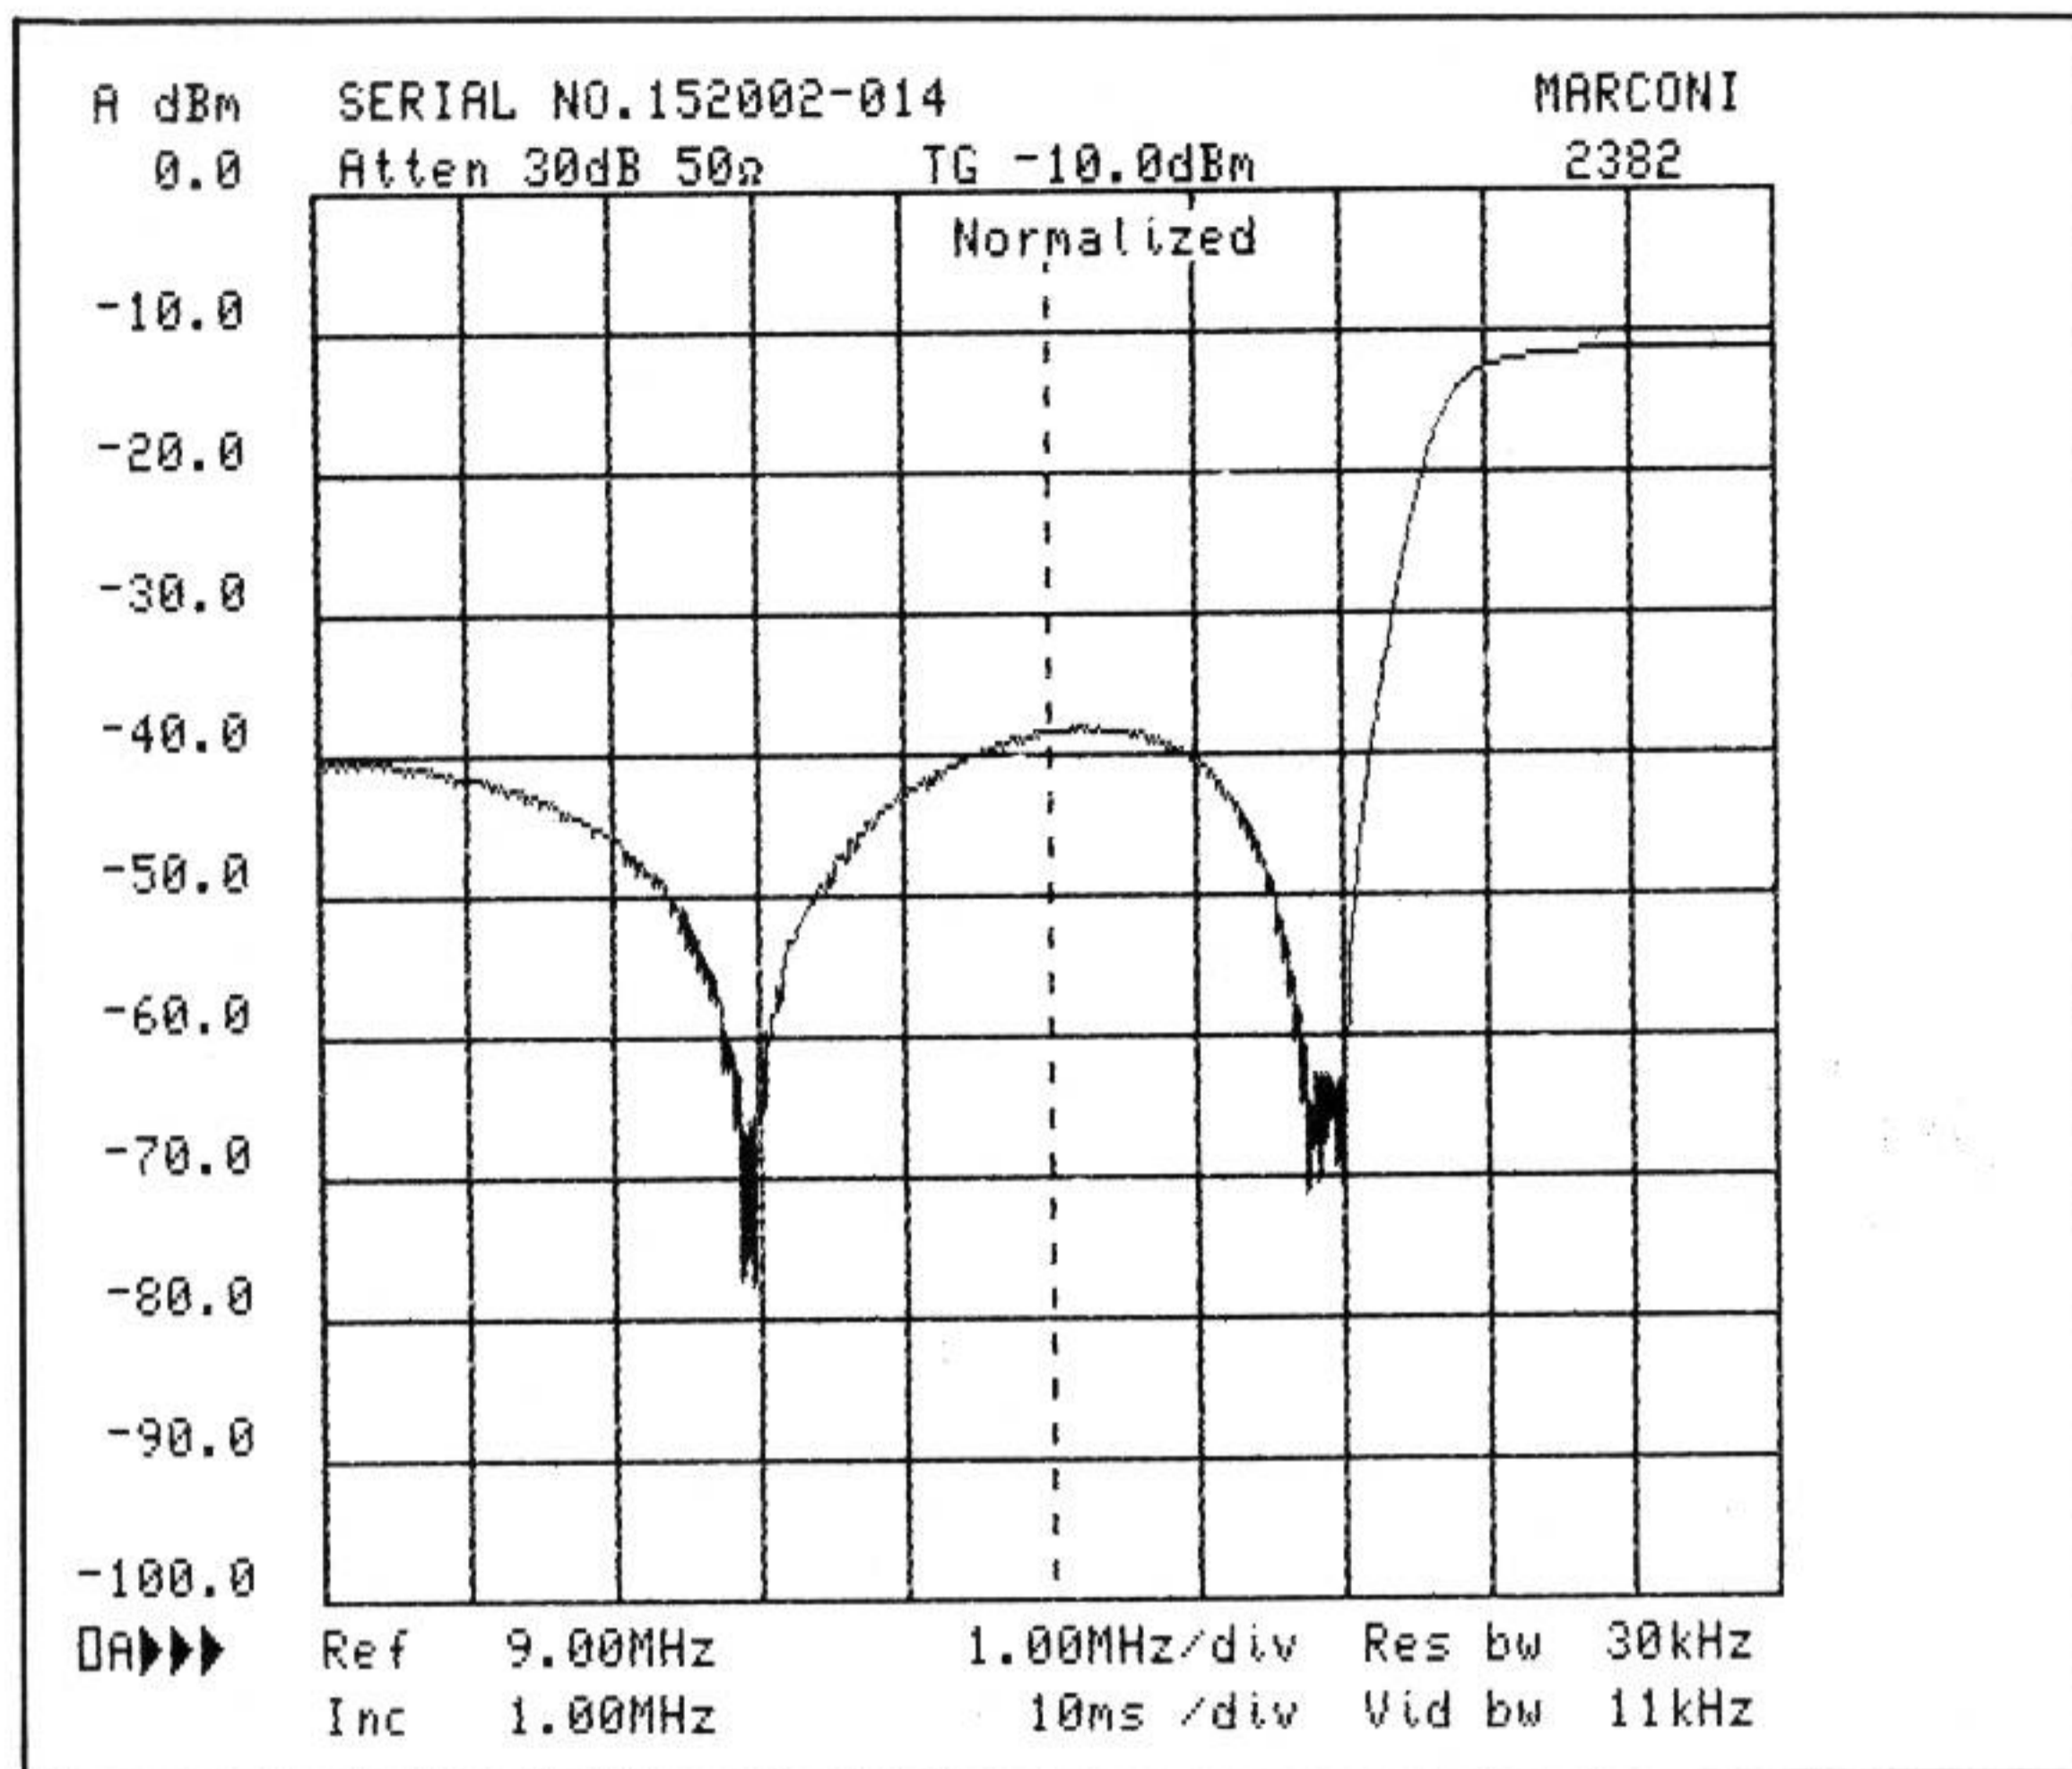

Fig. 18 Frequency response of a filter using NORMALIZE facility
82. Connect the device to be tested into the test fixture. The resulting response is now that for the device only - the effects of the extraneous circuitry being nullified (refer Fig. 18).